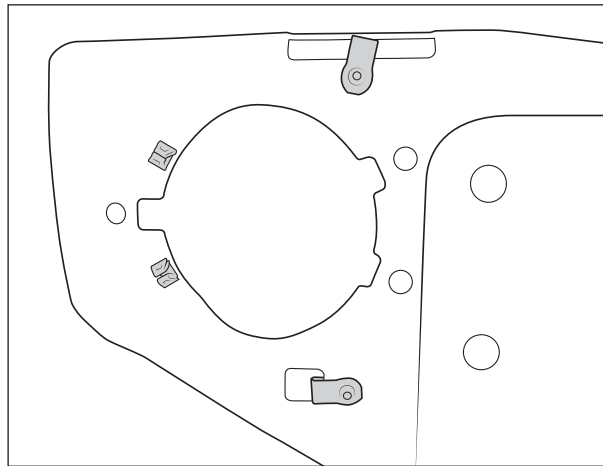

Figure 11
- i. Install provided U-nuts to outer fairlead stamping as shown (fig. 11).
- i. Install provided U-nuts to fairlead stamping as shown (fig. 11).
- i. Install provided U-nuts to fairlead in top and bottom holes as shown (fig. 11)
- i. A. Install provided U-nuts to fairlead stamping as shown (fig. 11).